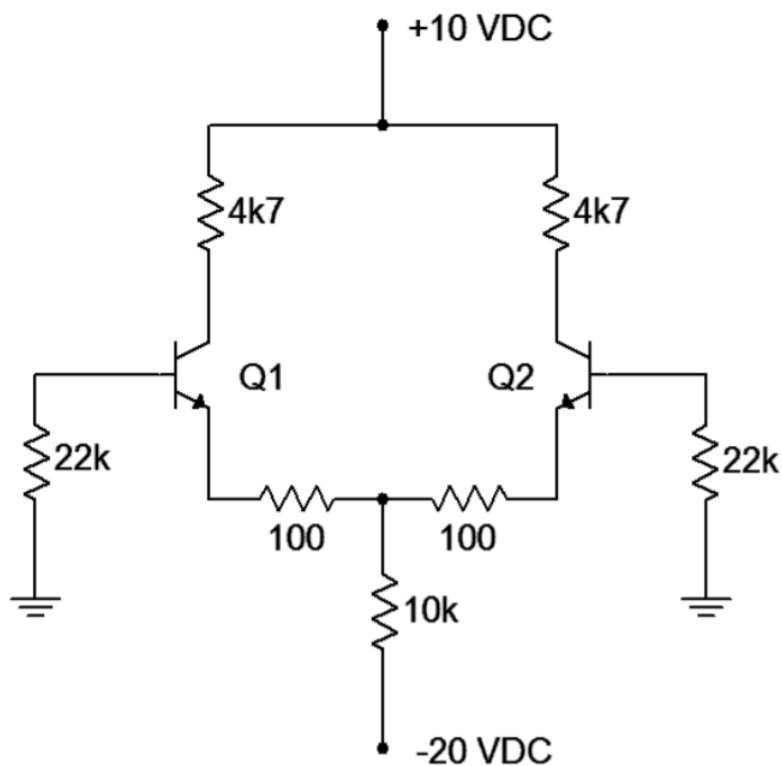

Figure 2.5.1
1. Assume that the transistors of Figure 2.5.1 have a current gain of 150. Calculate the base currents and collector voltages for the amplifier of Figure 2.5.1 and record them in Table 2.7.1. Also, compute and record the theoretical (ideal) input offset current and output offset voltage.
2. Assemble the circuit of Figure 2.5.1.
1. How might the input offset current of Figure 2.5.1 be reduced?
2. What are some causes of output offset voltage in the circuit of Figure 2.5.1?